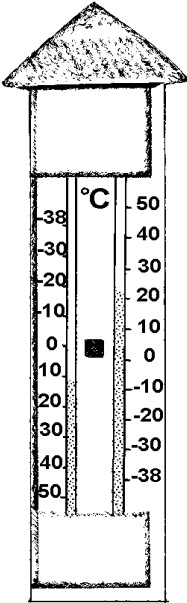

Figure 27: Maximum-minimum thermometer
- Thermometers are available for measuring the temperature. However, a maximum - minimum thermometer (see Figure 27) would be very useful to get a better insight into the variation in the temperature during the course of an entire day. You can then read off the maximum and minimum temperatures reached during the preceding period and then adjust it back to zero.